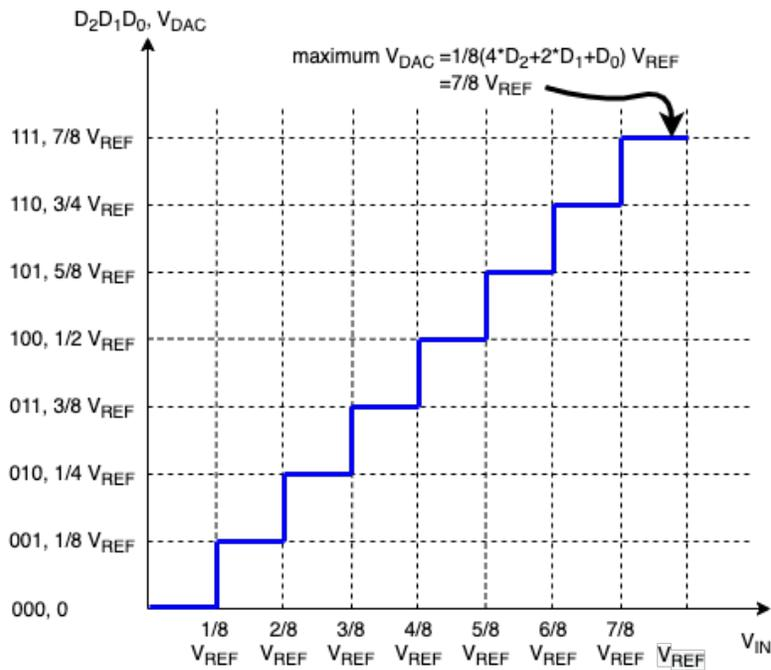

Figure 4: Voltage transfer curve of 3-bit SAR ADC
Before moving to the 4-bit ADC that will be implemented in the lab, let's take a look at a 3-bit SAR ADC as an example. The voltage transfer curve of the 3-bit SAR ADC is shown in Figure 4, where $D_2D_1D_0$ is the output digital code of the ADC. Notice that the maximum voltage of the V_{DAC} is $\frac{2^N-1}{2^N}V_{REF}$ where N is the number of bits (N=3 in this case.) The Least Significant Bit (LSB) of the ADC can then be derived as $\frac{1}{2^N}V_{REF}$. For $V_{IN} = 0.3V_{REF}$, the operation of the SAR ADC algorithm is shown in Figure 5. The corresponding DAC code and comparator output in each cycle are also denoted in the timing diagram. **Note:** In this lab, the waveforms are different from those in Homework 2. That is because in the homework, we switch the current bit to the correct code (0 or 1, based on the output of the comparator) at the same time as we switch the next bit to the trial code (1). But in the lab, we switch the current bit to the correct code first and then switch the trial code after half a cycle.